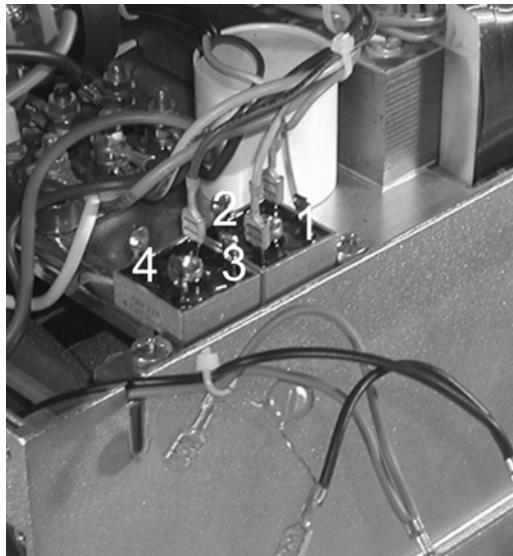

Figure 4
3. Locate the positive and negative leads from the bridge rectifier to the brush assembly (1 & 2 Figure 4)
4. Remove the connecting link wires from the bridge rectifiers as shown at 3 & 4 in figure 4 and isolate.